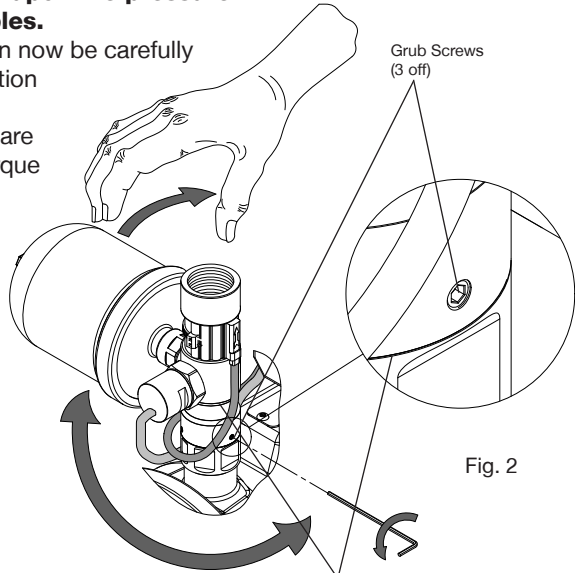

Fig. 2
- b) Using a 2 mm allen key (not supplied), carefully loosen all three retaining grub screws by two turns (Fig. 2).